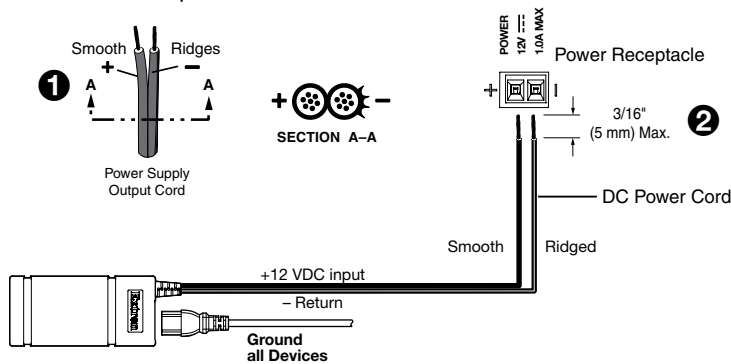

Figure 3. Connecting power to the RCP 101 D
- To power the unit with a power supply, connect the provided power supply to this input. Ensure that the polarity of the wires is correct (figure 3, **1**) and the wires are stripped correctly (**2**).